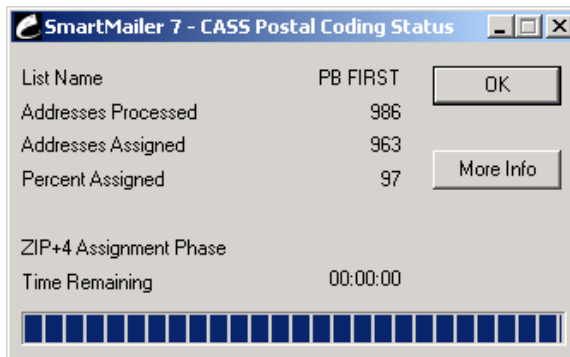

Figure 3-9
1. Click **Postal Code/Presort/Print Overcount** in the PB FIRST main menu. The SmartMailer – CASS Postal Coding Status message box appears (Figure 3-9). It provides the number and percent of addresses in the file that have been successfully postal coded.